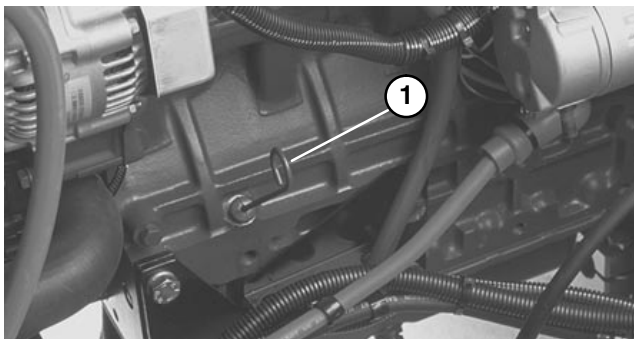

Figure 2
3. Remove dipstick, wipe clean and reinstall dipstick into tube and pull it out again: Oil level should be up to FULL mark (Fig. 2).